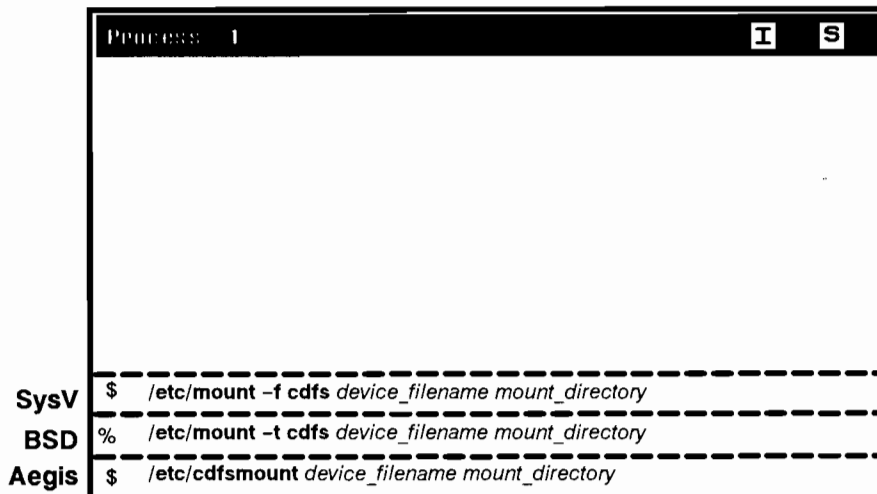

Figure 5-10. Mounting the CD-ROM
1. Mount the CD-ROM file system every time you insert a CD-ROM disk into the drive as shown in Figure 5-10. In the following example, *device_filename* is the device file of the CD-ROM drive (for example, **/dev/cdrom**), and *mount_directory* is the directory where you want the CD-ROM file system to appear (for example, **/cd_mountpoint**).